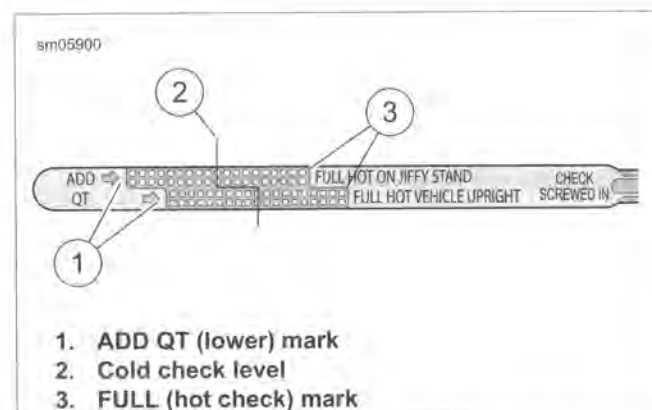

Figure 1-2. Engine Oil Dipstick
3. See Figure 1-2. Remove the dipstick and verify oil level. Remove filler plug/dipstick and check oil level. The correct oil level is midway (2) between the ADD QT and FULL HOT marks on the dipstick.
4. See Figure 1-2. Remove filler plug/dipstick and check oil level. Oil level must register between the ADD QT and FULL HOT marks. If oil level is at or below the ADD QT mark, add only enough oil to bring the level to the FULL HOT mark. Do not overfill.